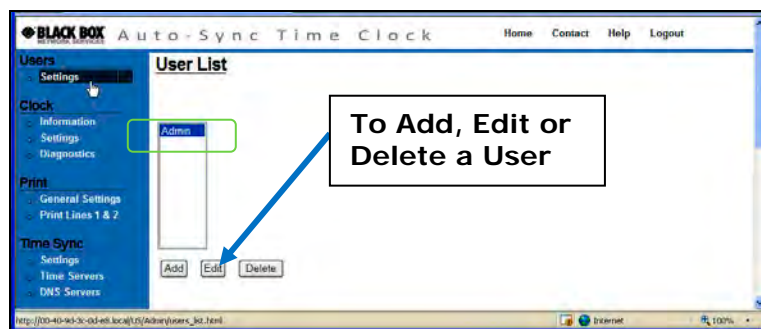

Figure 4-2. User List.
1. Log into the Auto-Sync Time Clock (see *Figure 3-4*) and Click on the **Settings** link under Users, and the **Users List** screen will appear (see *Figure 4-2*). Create a new user with a unique Username and Password and store this information in a secure place. Click on the  button to save the new username and/or password in the clock's flash memory.
1. Click on the **Settings** link under Users, and the **User List** screen will appear (see Figure 4-2).